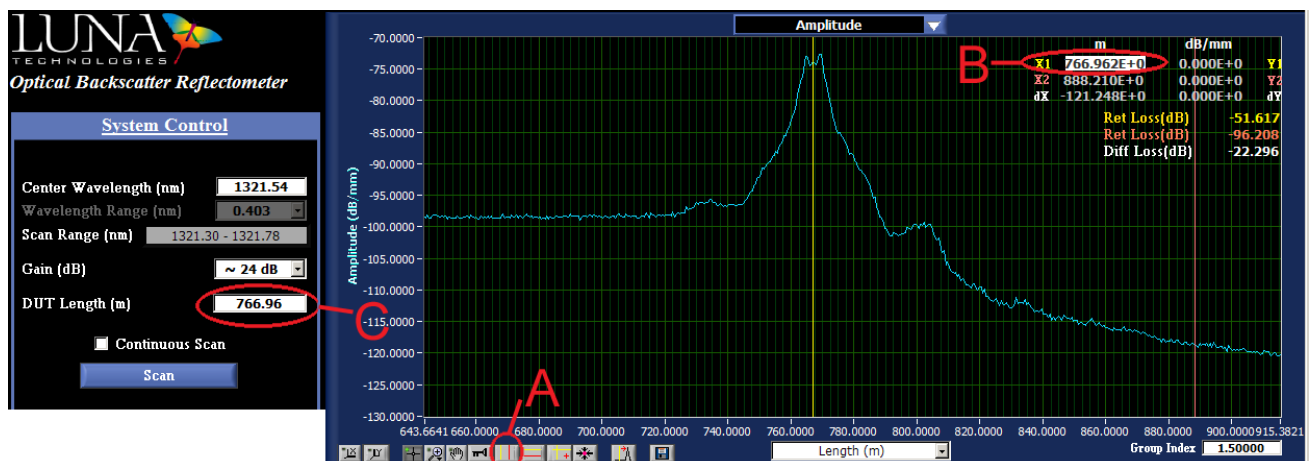

Figure 8: Top graph shown with activated vertical cursors. Vertical cursor toggle (A), vertical cursor positions (B), and DUT length (C)
i. On the top graph, activate the vertical cursors (labeled 'A', Figure 8). Using one of the cursors, horizontally shift it to point that is approximately at the center of the end reflection peak reflection as seen below. A value of the location will then be displayed on the upper-right hand corner of the top graph. Copy the appropriate, color-coded value (labeled 'B', Figure 8) and paste it to the "DUT Length" field on the "System Control" menu (labeled 'C', Figure 8).